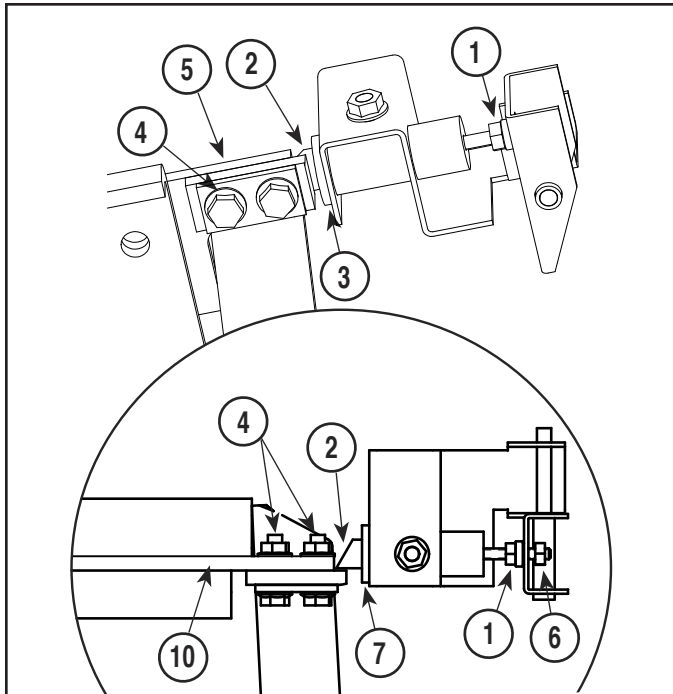

Figure 4-16. Trendelenburg Level Lock Adjustment
- (1) Lower bellows for access (Refer to para 4.2).
- (2) Tighten or loosen nut (1, Figure 4-16) until end of lockout bolt (2) is 1/4 in. (6.3 mm) from sleeve (3).
- (3) Loosen two screws and nuts (4); then slide lockout strike (5) in or out until it has a minimum engagement of 3/16 in. (4.8 mm) with lockout bolt (2).